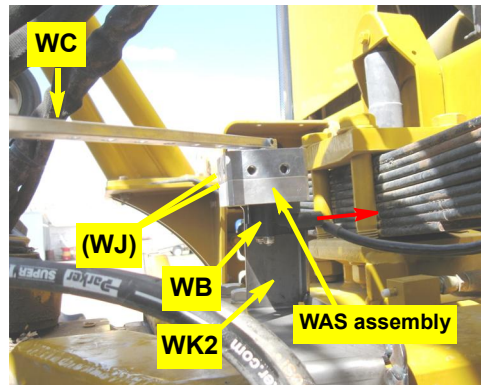

Figure 2c: Installed WAS assembly
- c. Locate and loosen (but see note following) the two outer bolts of the wheel motor hoses clamp at the top of the wheel motor housing (Figure 2c inset). Slide bracket **WL**, with its twist toward the front, between the bolts and the steel plate. Retighten the bolts (Figure 2c).
Figure 2c with inset: WAS link rod bracket installed
- uppermost and **WB**'s wire connector pointing inward (Figure 2c - you will install the WAS cable later).